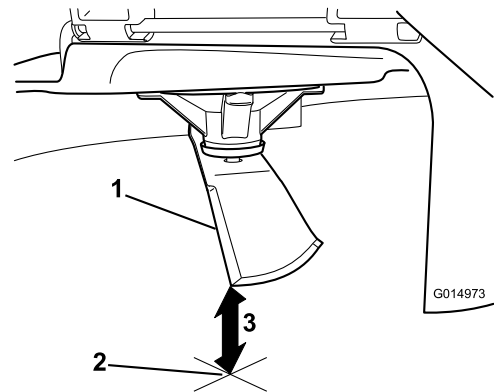

Figure 60
5. Measure from the tip of the blade to the flat surface (Figure 60).